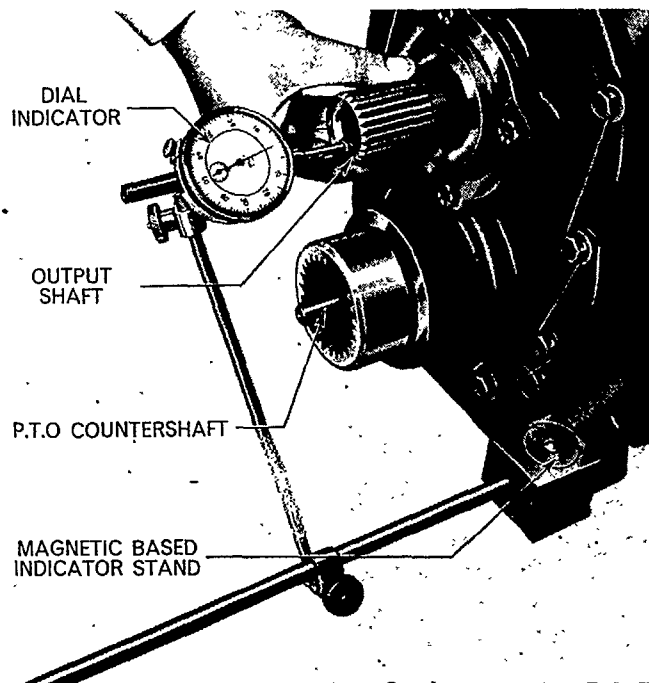

Figure 40
- c. Using a standard dial indicator, calibrated in 0.001 in., or 0.01 mm divisions, Figure 40, set the indicator plunger against the end face of the output shaft. Move the shaft in and out, noting the end-float reading on the indicator.